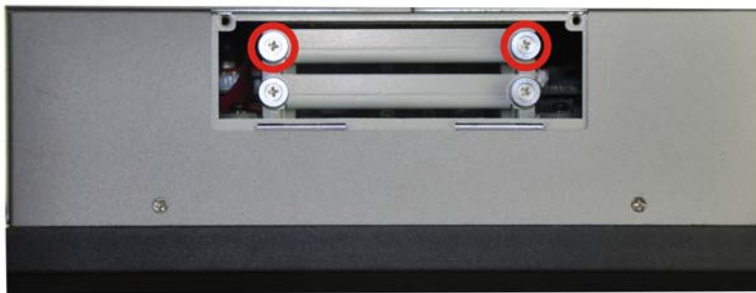

Figure 3-2: HDD Bracket Retention Screws
Step 2: Remove the two HDD bracket retention screws (**Figure 3-2**).